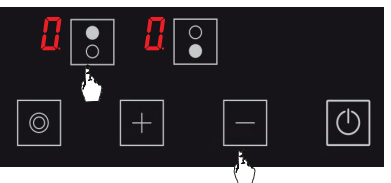

Figure 18
2. Press upper hob selection key (🔼) and minus key (⊖) simultaneously. (see Fig. 18) You shall hear a short warning signal at this time. Then, remove your fingers from the stove control panel.